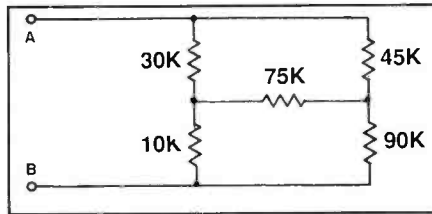

Figure 1. Can you calculate the resistance across A and B?
1. By combining resistors in series and parallel, can you calculate the resistance across terminals A and B for the circuit in **Figure 1**?
former and then through a rectifier circuit, filter, and regulator circuit. With switched-mode power supplies, the concept changes slightly. Rather than begin with a transformer, the SMPS begins with a full-wave rectifier circuit connected directly to the line and then progresses to a high-frequency transformer, a power transistor, and a pulse generator. Figure 1 shows a block diagram for a typical switched-mode power supply. The SMPS supplies 132Vdc for the sweep circuits, 12Vdc for a remote control preamplifier, 12Vdc for the turn-on, and 35Vdc for the audio stages of a television receiver.
Figure 1. This is the block diagram for a typical switch-mode power supply. This SMPS supplies 132Vdc for the sweep circuits, 12Vdc for a remote control preamplifier, 12Vdc for the turn-on, and 35Vdc for the audio stages of a television receiver.